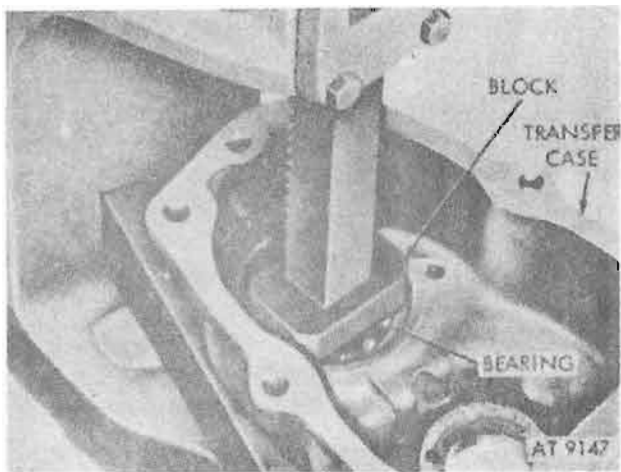

Figure 8-14. Pressing output shaft rear bearing from transfer case.
n. Press output shaft rear bearing from transfer case, using a standard press block (fig. 8-14).